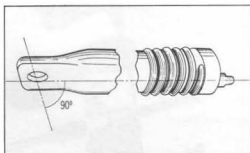

Fig. 69
- (1) When assembling the front cushion, assemble it so that the lug on the upper holder is perpendicular to the flat part of the fork slide pipe. (Fig. 69).
- (2) Apply grease inside the cushion housing spring, dust seal, upper and under holders.
- (3) When replacing the spring with a new one, apply grease on the new parts as above.
- (4) When assembling the spring to the upper holder, wrap vinyl tape around the holder.